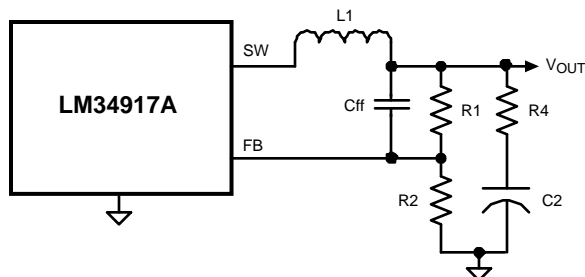
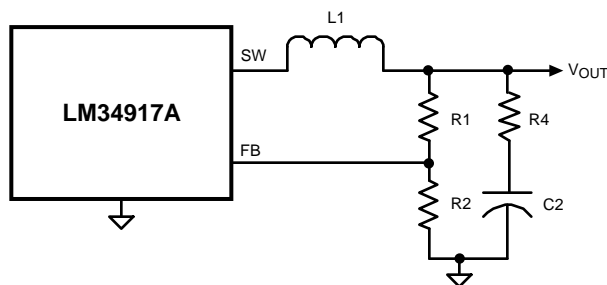
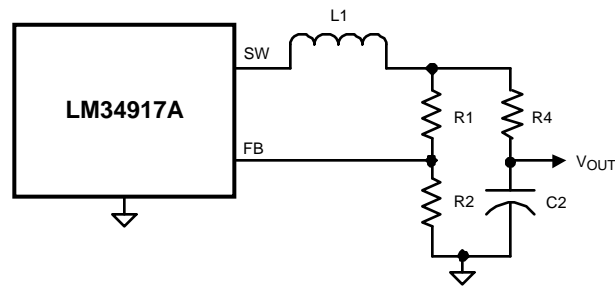

Figure 18. Reduced Ripple Configuration
Figure 19. Maximum Ripple Configuration
Figure 20. Alternate Minimum Output Ripple Configuration
a) Alternate #1: In Figure 18, R3, C7 and C8 are removed, and Cff and R4 are installed, resulting in a higher ripple level than the circuit of Figure 15. Ripple is created at V_{OUT} by the inductor's ripple current passing through R4. That ripple voltage is AC coupled to the FB pin through Cff, allowing the minimum ripple at V_{OUT} to be set at 25 mVp-p. The minimum ripple current amplitude ($I_{OR(min)}$) is calculated by re-arranging Equation 11 using $t_{ON(max)}$ and $V_{IN(min)}$. The minimum value for R4 is calculated from:
b) Alternate #2: In Figure 19, R3, C7 and C8 are removed, and R4 is installed, resulting in a higher ripple level than the circuits of Figure 15 and Figure 18. Ripple is created at V_{OUT} by the inductor's ripple current passing through R4. That ripple voltage is coupled to the FB pin through the feedback resistors (R1, R2). Since the LM34917A requires a minimum of 25 mVp-p ripple at the FB pin, the ripple required at V_{OUT} is higher than 25 mVp-p by the gain of the feedback resistors. The minimum ripple current ($I_{OR(min)}$) is calculated by re-arranging Equation 11 using $t_{ON(max)}$ and $V_{IN(min)}$. The minimum value for R4 is calculated from:
c) Alternate minimum ripple configuration: The circuit in Figure 20 is the same as that in Figure 19, except the output voltage is taken from the junction of R4 and C2. The ripple at V_{OUT} is determined by the inductor's ripple current and C2's characteristics. However, R4 slightly degrades the load regulation. This circuit may be suitable if the load current is fairly constant. R4 is calculated as described in Alternate #2 above.